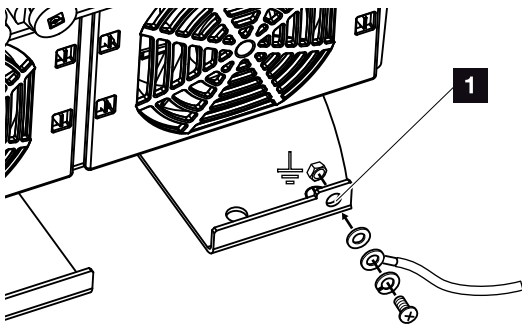

Fig. 24: Country-specific PE connection, outside
11. In countries in which a second PE connection is prescribed, connect this at the marked place on the housing (outside). Fig. 24, It. 1